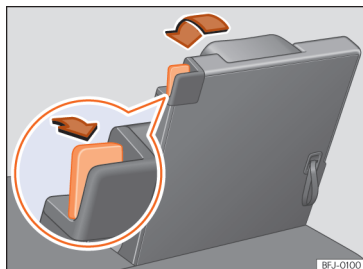

Fig. 196 Third row of seats: place the seat in loading floor position.
- Pull the unlocking lever >>> Fig. 196 to its rear-most position to unlock the seat backrest.
- Pull the cord on the backrest of the seat >>> Fig. 196 to lift the backrest. **OR:** lift the backrest with your hand from the vehicle interior.
- The red mark on the unlock lever >>> Fig. 196 must disappear.
• A red mark on unlock lever >>> Fig. 196 indicates that backrest is not engaged. If the back rest is locked correctly, the mark is not visible.